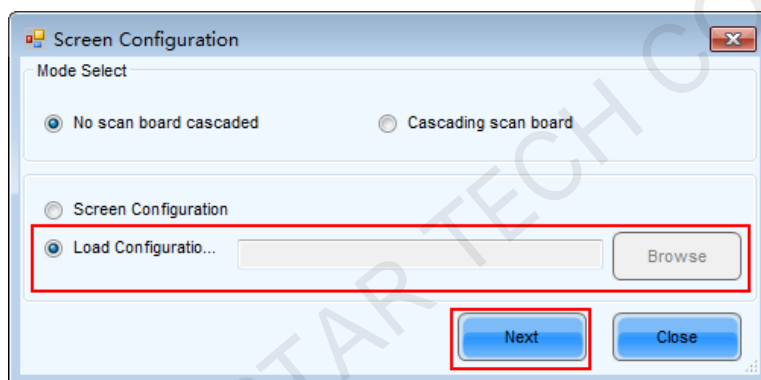

Fig. 7-1 Select Screen configuration Mode
- 1) Select "**Screen Configuration**" option in the Fig.7-1, and click " **Next**" , enter **Scan Board**
Switch to "Screen Config" page in Fig. 7-1, interface of No scan board cascaded mode as shown below: